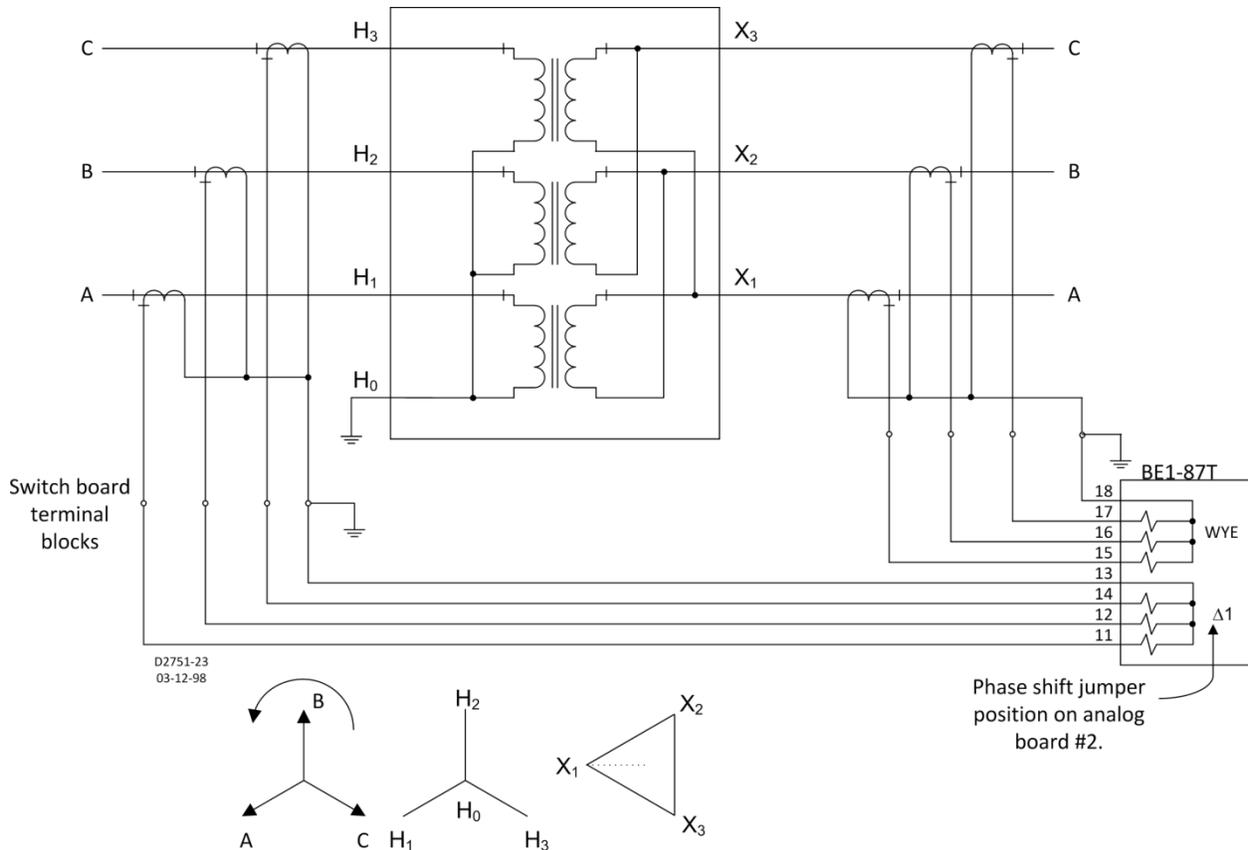

**Figure 36. 30° Phase Shift Compensation Jumpers**
A set of movable jumpers (Figure 36) determines the direction of the compensating internal phase shift for each input. Because each jumper can be shifted +30°, -30°, or 0°; a total of 60° is achievable between two inputs for special applications. In this way, the appropriate direction of phase shift can be matched to the shift in the protected transformer. This alleviates the need for an extra set of external CTs in most applications.
Assigning 30° Phase Shift Compensation requires disassembly of the relay, and must be done when the relay has been taken out of service. Access to the 30° Phase Shift jumpers requires the removal of the Analog #2 Board, shown in Figure 36. To avoid personal injury or equipment damage, do **NOT** proceed unless thoroughly familiar with the instructions in the sections on *Relay Operating Precautions* and *Relay Disassembly: Precautions*.
The position of a set of movable jumpers on Analog Board #2 determines the state of the internal compensation. To gain access to these jumpers, it is necessary to remove Analog Board #2. Refer to the topic *RELAY DISASSEMBLY* for instructions on gaining access to the circuit board then adjust the jumpers shown in Figure 36 as follows:
- In cases where no phase shift is wanted, all three jumpers ( $\phi_A$ ,  $\phi_B$ , and  $\phi_C$ ) shown in Figure 36 are in the **WYE-WYE** position. (Relays are shipped with all jumpers in this position.)
The internal phase shift compensation is performed electronically as shown in the chart of Figure 36. The internal compensation can apply to any power transformer with any combination of wye, delta, or autotransformer winding connections.
The transformer in the example shown in Figure 39 has a delta connection on the secondary winding. The currents in each winding of the delta are A, B and C respectively as reflected from the wye connected primary winding. The delta connection of the transformer windings causes the current flowing in the phase leads connected to the delta winding to be A-C, B-A and C-B respectively. The CT currents on the wye side must be combined similarly to provide A-C, B-A and C-B to compensate. This is shown in Figure 36 by selecting phase compensation jumper position  $\Delta 1$  for the wye side input.